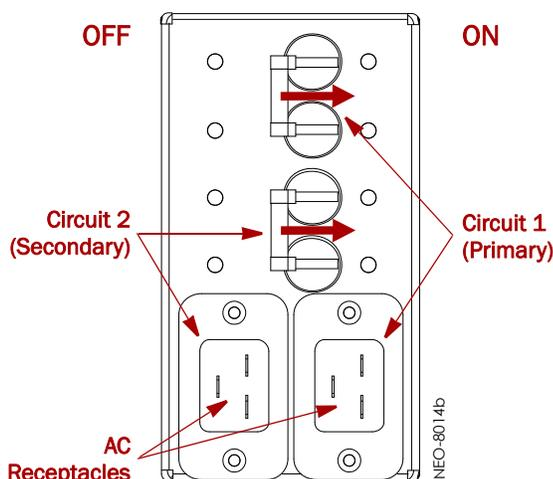

Figure 3-1: NEO 8000 Circuit Breakers (OFF Position)
2. Connect the power cords to the two AC receptacles at the bottom of the circuit breaker box (Figure 3-1).